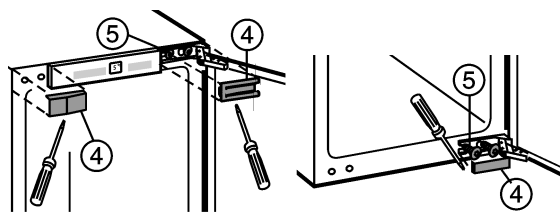

Fig. 9
- Remove the covers Fig. 9 (4).
- Just loosen the fixing screws Fig. 9 (5).
- Swap the fixing screws Fig. 9 (5) on the top and bottom to the opposite side.
- Hang the appliance door on the pre-fitted fixing screws Fig. 9 (5).
- Tighten the fixing screws Fig. 9 (5) **securely by applying a screw torque of 3 lb-ft (4 Nm)**.
- Re-attach the covers Fig. 9 (4).